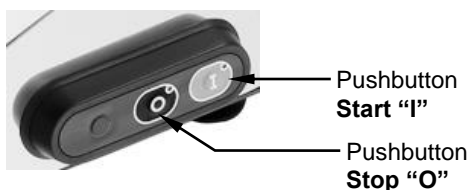

Fig. 8 - Pushbuttons
- a) First press **Start “I”**, then **Stop “O”**, and check operation of appropriate indicator lamps (fig. 8).